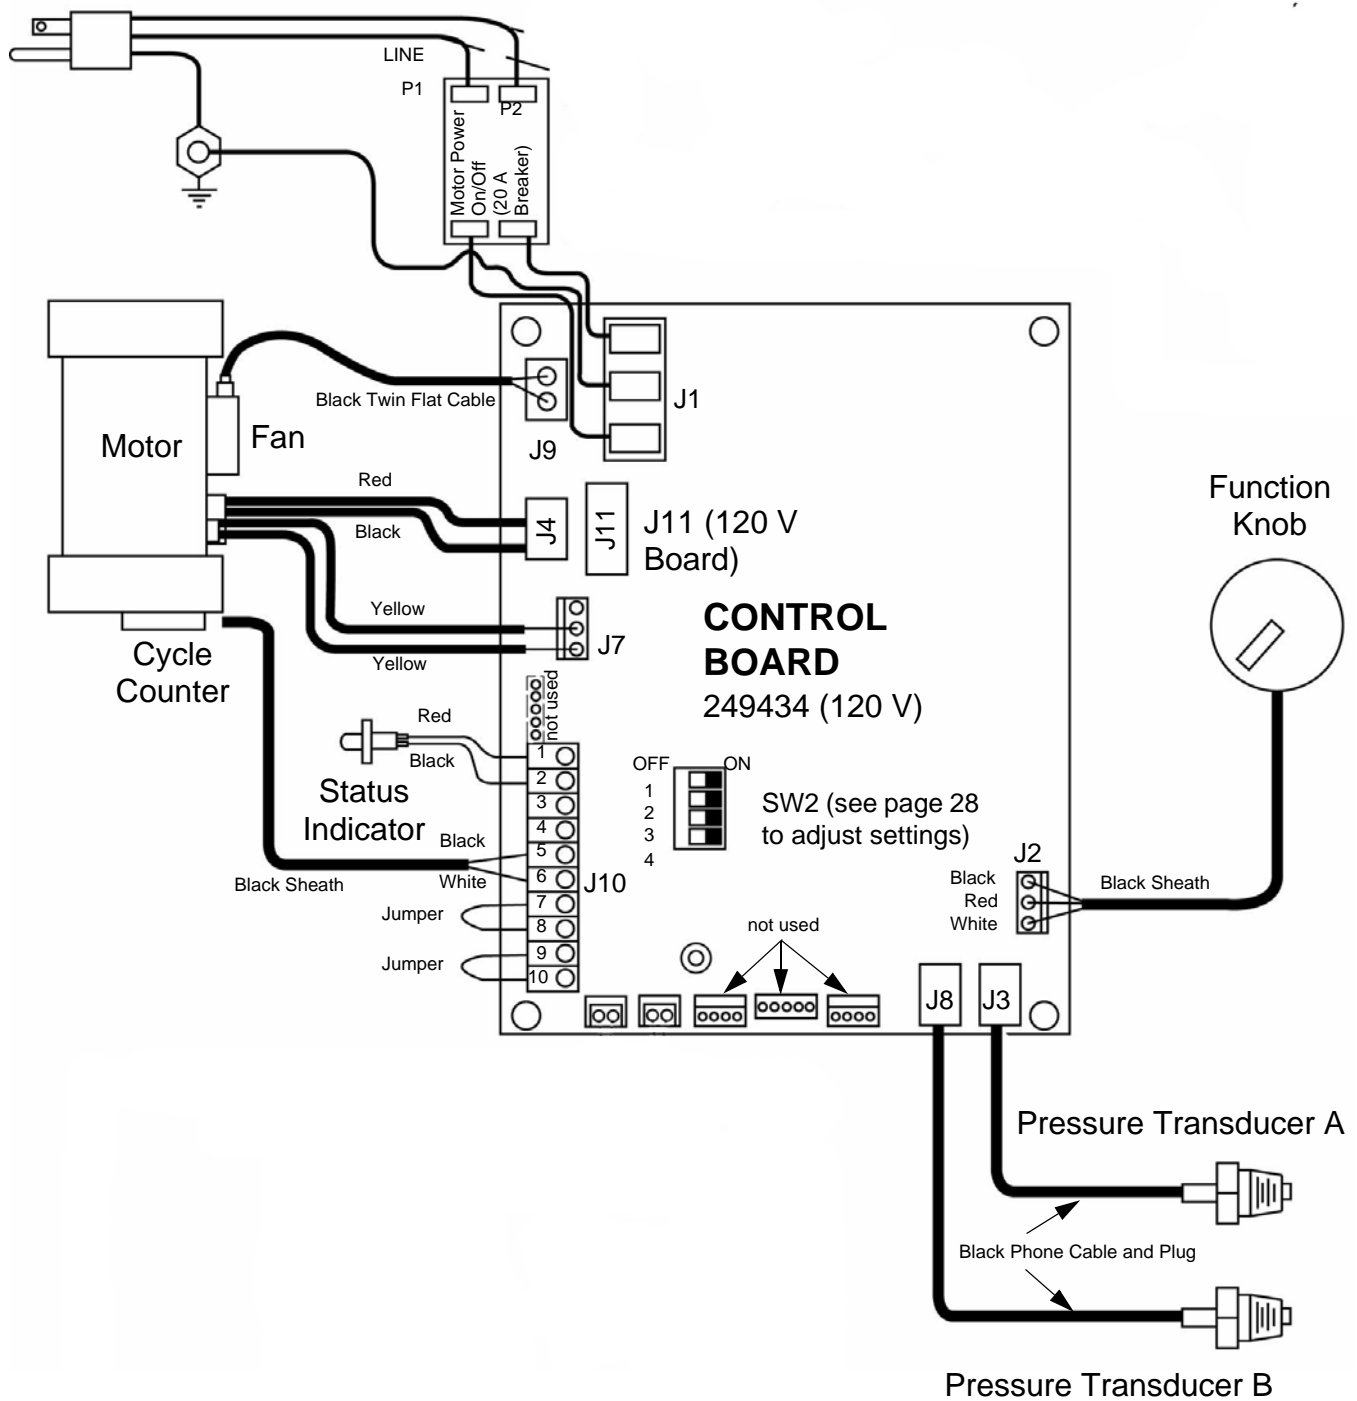

FIG. 58: Control Module Wiring Connections
NOTE: There is one red LED (D11) on the board. Power must be on to check. See FIG. 58 for location. Function is:
(see FIG. 58)**
4. Remove four screws (10) and control board cover (61) to expose the control board (12).
5. Disconnect transducer cables from J3 and J8 at board; see FIG. 58. page 38. Reverse A and B connections and check if status code follows the bad transducer, page 28.
7. Install new transducer (35) in manifold (33). Mark board end of cable with tape (red=transducer A, blue =transducer B).
8. Route cable under the electric motor and through grommet to control board (12).
9. Connect transducer cable at board; see FIG. 58. page 38.
1. Open recirculating valves, disconnect J4 or J11 from control board, see FIG. 58, page 38.
2. Place cart (1), with motor plate (8) installed, on bottom of the motor and fan. Feed motor cables through grommet.
3. Fasten motor to cart with four screws (10).
4. Fasten board to cart with seven screws (13). Connect all cables. See FIG. 58, page 38.
5. Install cover (61) with screws (10).
1. Disconnect fan cable (94) from fan (202). With Motor Power on, test cable connector for line voltage (120 V or 240 V).
2. *If voltage is correct*, fan is defective. Remove screws holding fan to shield (206). Install new fan in reverse order.
3. *If voltage is not correct*, check fan cable connection at J9 on control board; see FIG. 58, page 38.